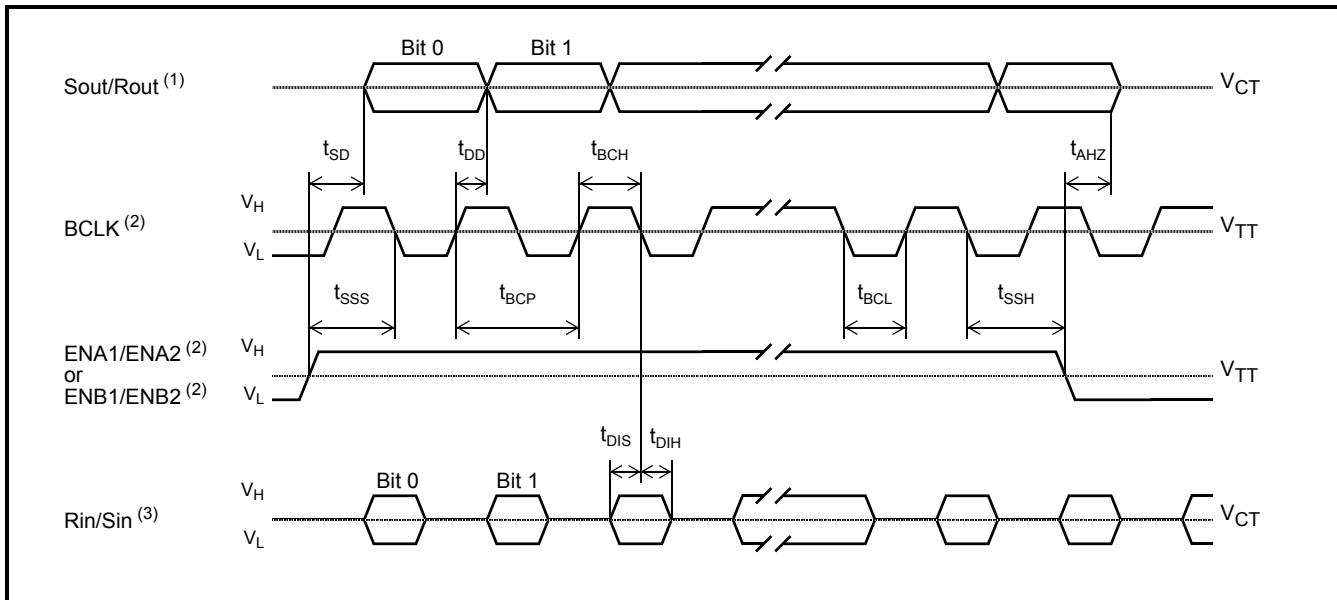

Figure 17 - SSI Data Port Timing
**AC Electrical Characteristics† - Serial Data Interfaces (see Figures 17 and 18)**
**AC Electrical Characteristics† - Microport Timing (see Figure 17)**